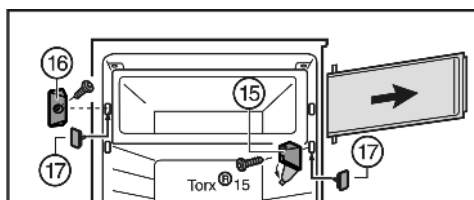

Fig. 6
- Fold away cover of turn hinge Fig. 6 (15).
- Unscrew turn hinge Fig. 6 (15) together with compartment door.
- Unscrew closing element Fig. 6 (16).
- Close the vacated holes with the accompanying stoppers Fig. 6 (17).